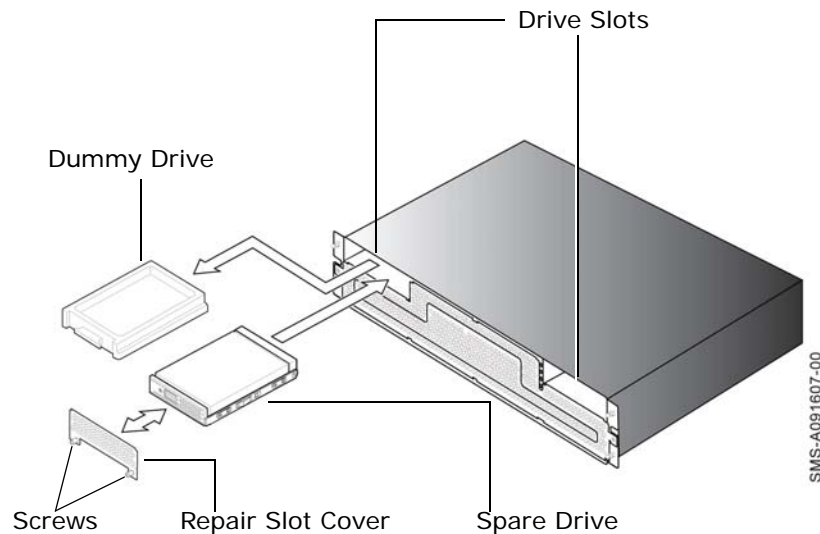

Figure 4-6: Installing the Spare Drives
8. Slide the new drive into the spare drive slot until the locking handle engages (see Figure 4-6 on page 4-6). When the drive is firmly installed, it begins to spin up automatically.